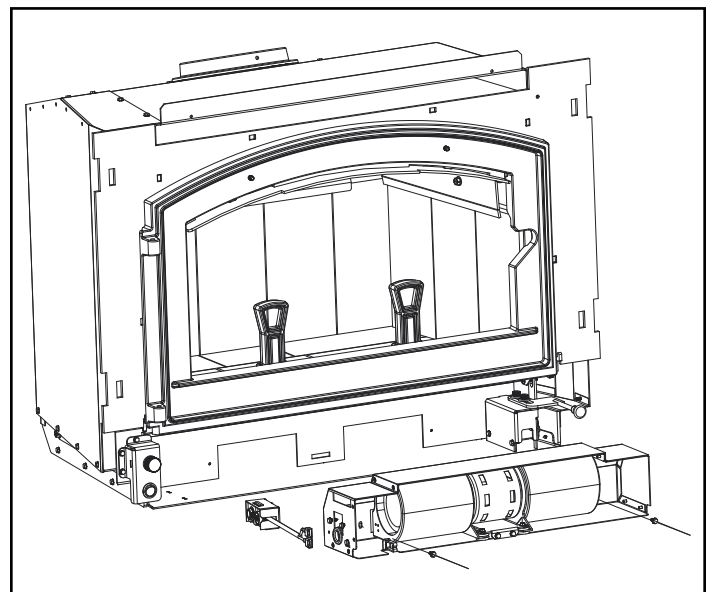

Figure 22.3
5. Using a Phillips head screw driver, remove the 2 screws from the snap disc and lift the snap disc off of the mounting bracket (**Figure 22.3**).